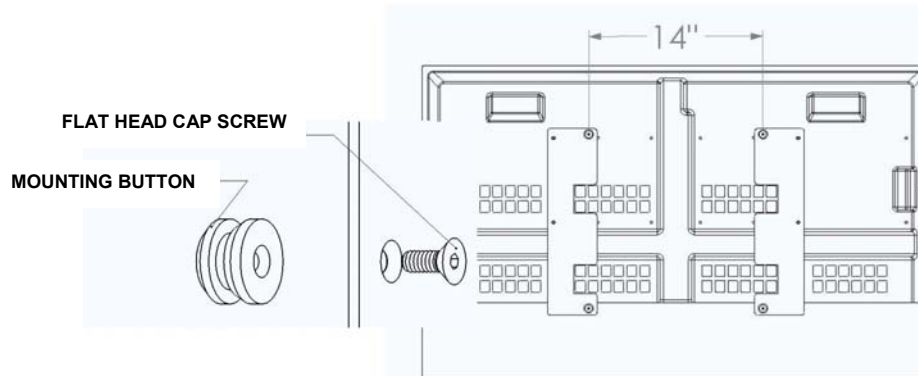

Figure 2
1. Using a 10-24 flat head cap screw inserted from chamfered hole side of bracket, secure mounting button, with chamfered hole of mounting button (larger surface) facing bracket, to bracket (four places). See Figure 2.
2. Align hole pattern on brackets with pattern on back of display utilizing hole pattern in bracket that best centers the mounting brackets, depending upon display model (see Figure 2).